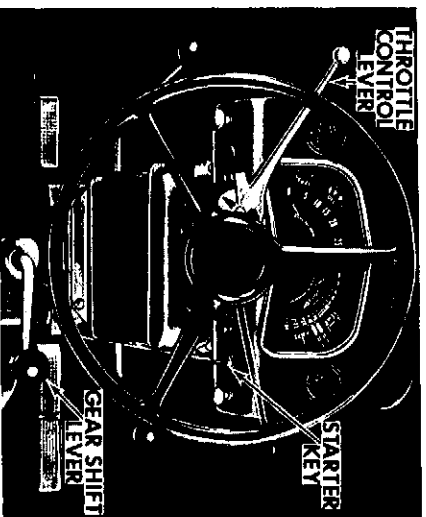

Figure 29
1. Move throttle control lever to 1/2 open position, Figure 29.